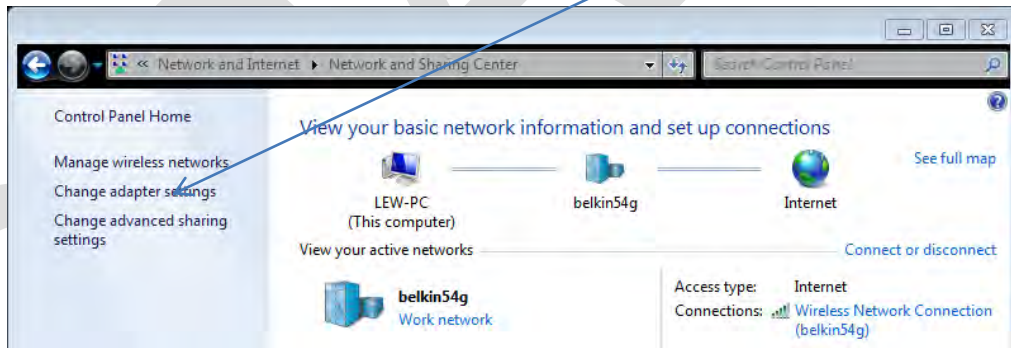

Fig 2
- c. When the Network and Sharing Center opens click on "**Change adapter settings**" (Fig 2)